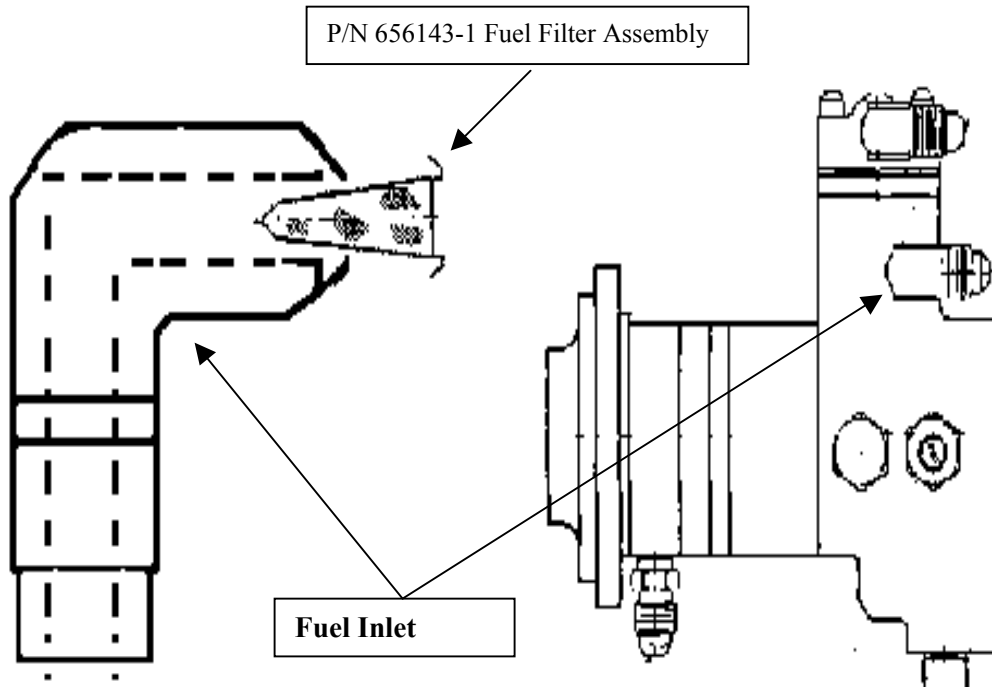

FIGURE 1
- (g) Insert the P/N 656143-1 fuel filter element into the fuel inlet fitting. Ensure that the fuel filter flange seats against the fitting flare. Reference Figure 1.
- (i) Remove the protective cover from the fuel pump inlet fitting and insert the P/N 656143-1 fuel filter element into the fuel inlet fitting. Ensure that the fuel filter flange seats against the fitting flare. (Reference Figure 1.)